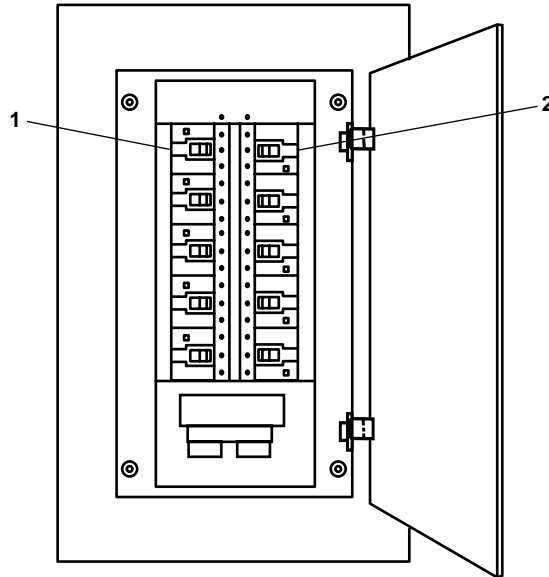

Figure 3. 440V Power Panel No. 4
- c. At the 440V power panel No. 4, turn OFF the circuit breaker (figure 3, item 1 or 2) for the out-of-service compressor. Lock out and tag out the valves (FM 55-502).